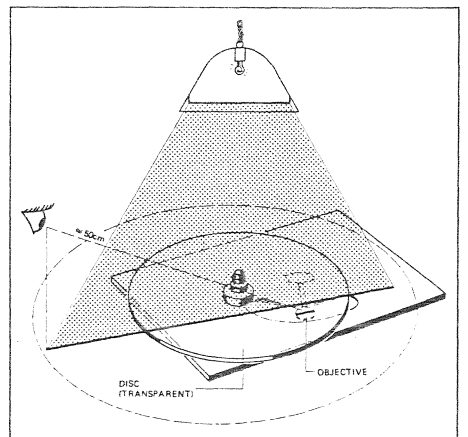

Fig. 4.14
- Position the CD player in such a way that the shadow forms a 90° angle to the scanner arm (see Fig. 4.14). The distance between the two lines (reflections) should not exceed 2.5 mm.